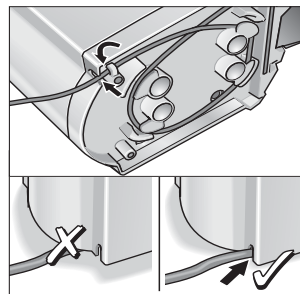

Figure 3: Placing the station
- Secure the remaining power cord in the cable hooks. Please make sure that the power cord is guided through the opening in the housing (Figure 3).